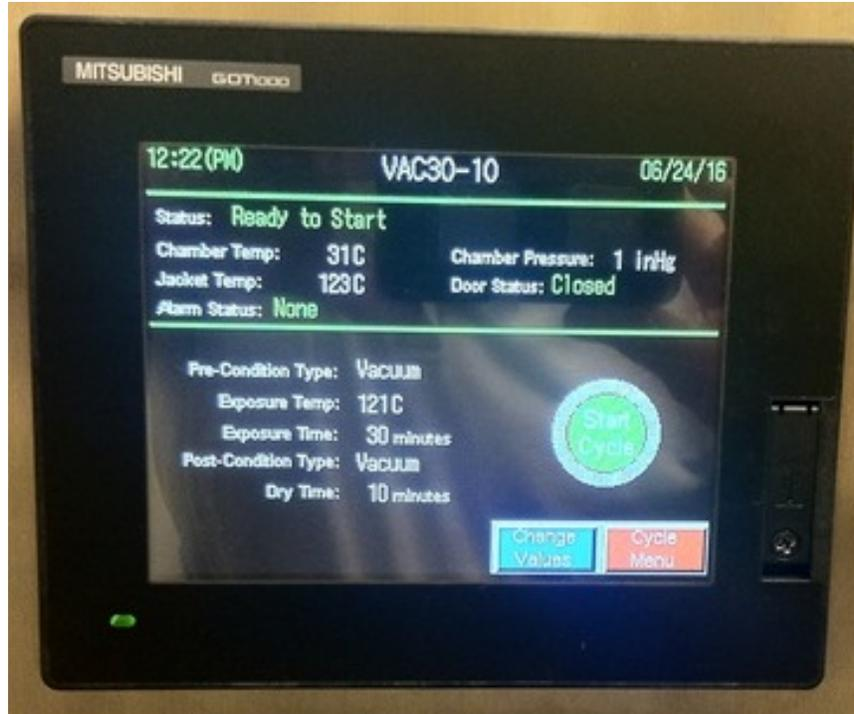

Figure 5. Cycle run menu 1
- 5.9. Once you have chosen a cycle, press on the cycle number button, you will be taken to the cycle run screen, as shown in figure 5.